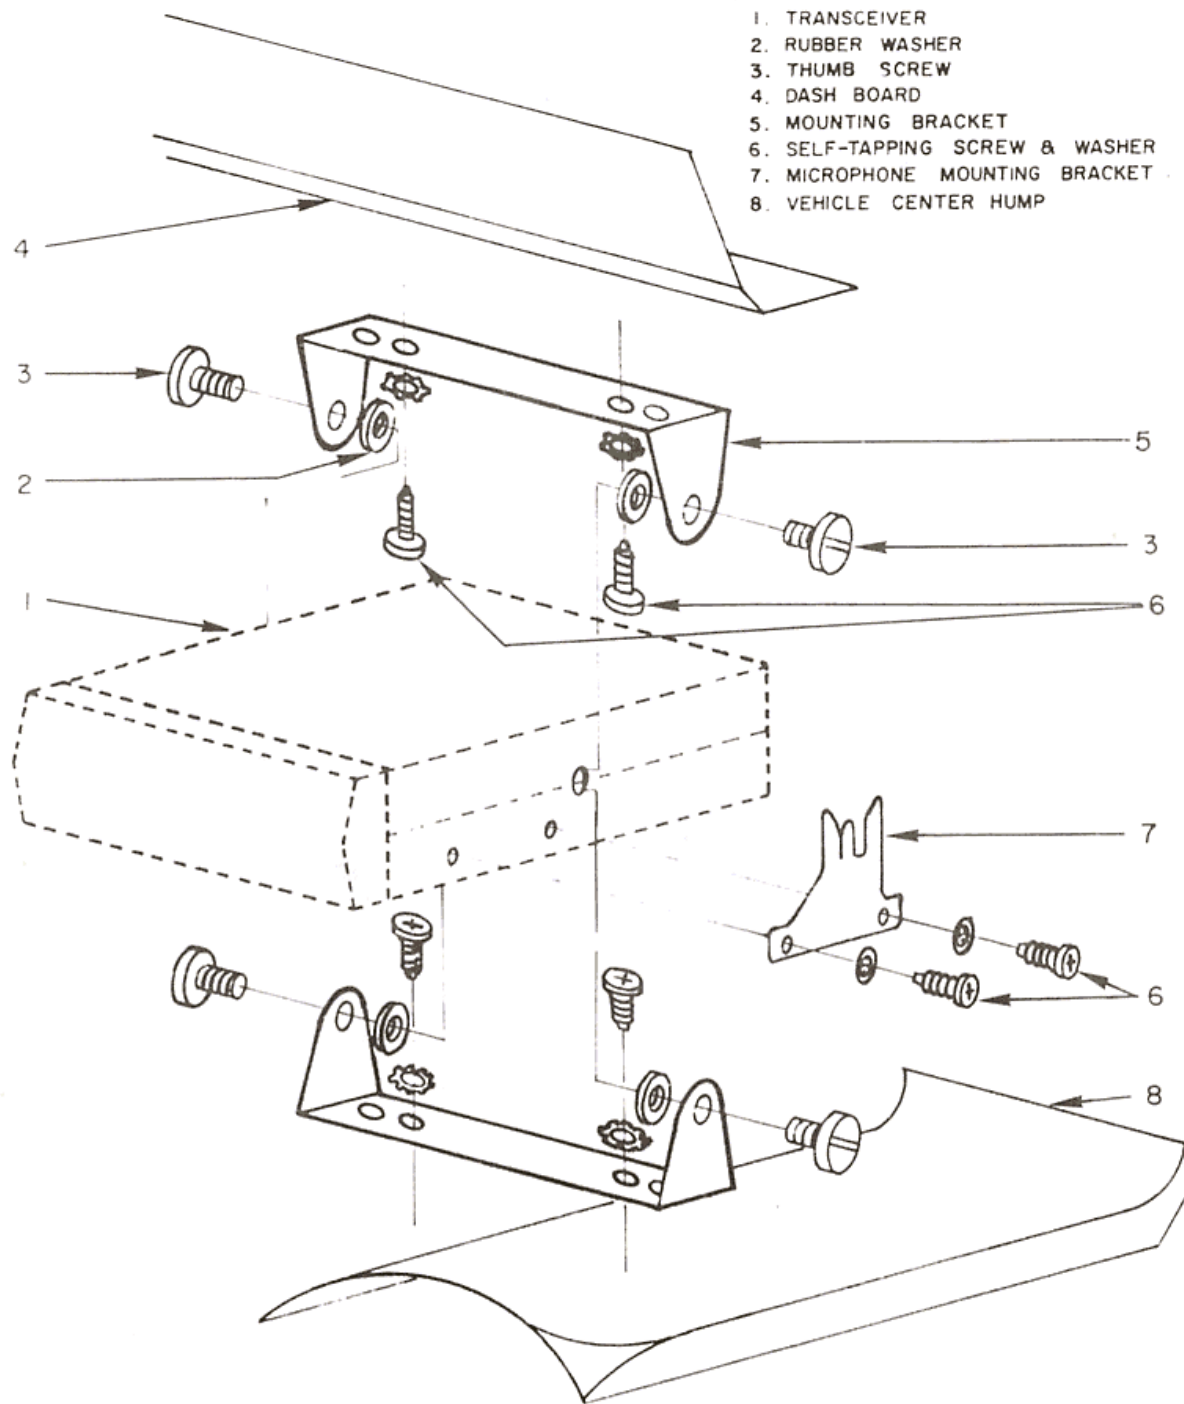

FIGURE 1, TYPICAL VEHICLE MOUNTING BRACKET INSTALLATION
- b) Use the VEHICLE MOUNTING BRACKET as a template to locate and mark the mounting holes. Refer to fig. 1 for identification of the mounting hardware.